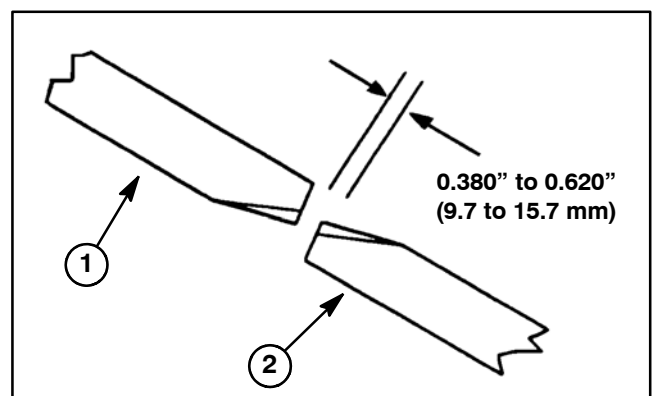

Figure 9
13. Check distance between inner deck blade on wing deck and outer deck blade on center deck. Distance between blades should be **0.380” to 0.620” (9.7 to 15.7 mm)** (Fig. 9). If blade distance is incorrect, loosen hex jam nut (item 32) on rear link assembly and adjust cap screw (item 31). Tighten jam nut when blade distance is correct.
15. Secure switch shield (item 50) to center deck.